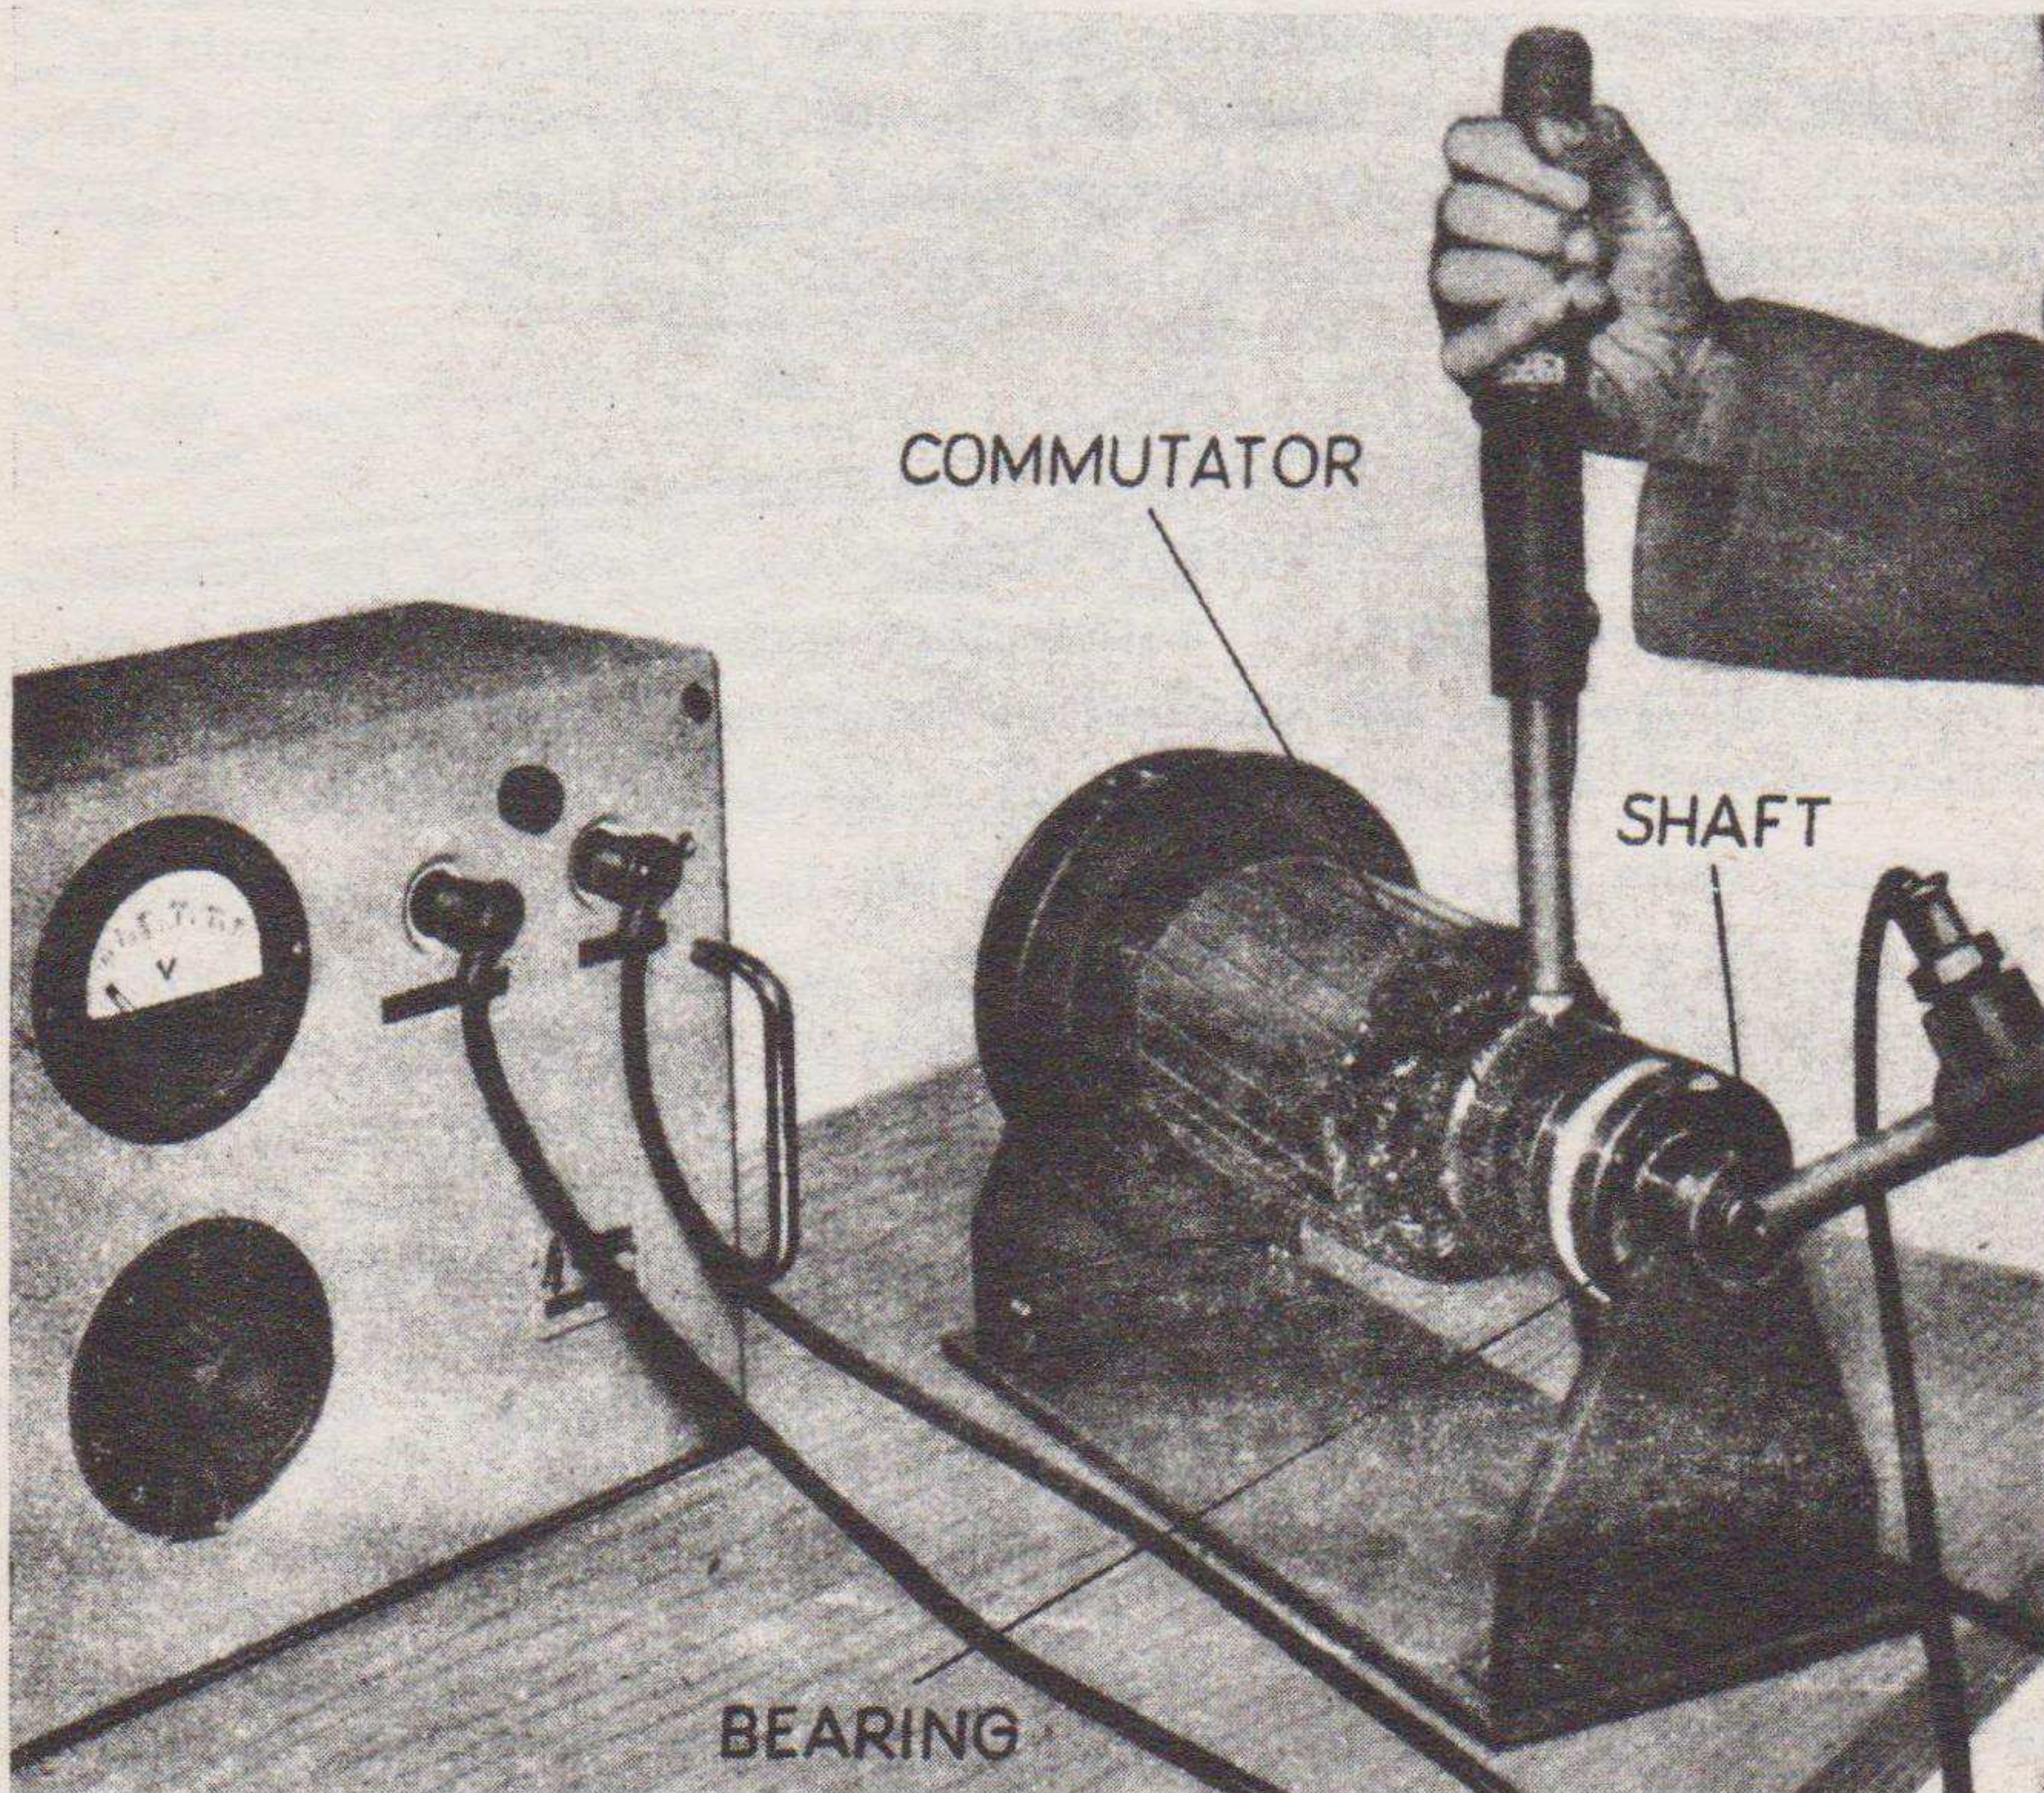

Figure 25. Testing for grounded armature.
(2) Using the same continuity meter, place one of the test prods on the end of the rotor shaft and move the other prod around the commutator, touching each bar in turn. If a reading is obtained, the rotor is grounded (fig. 25).